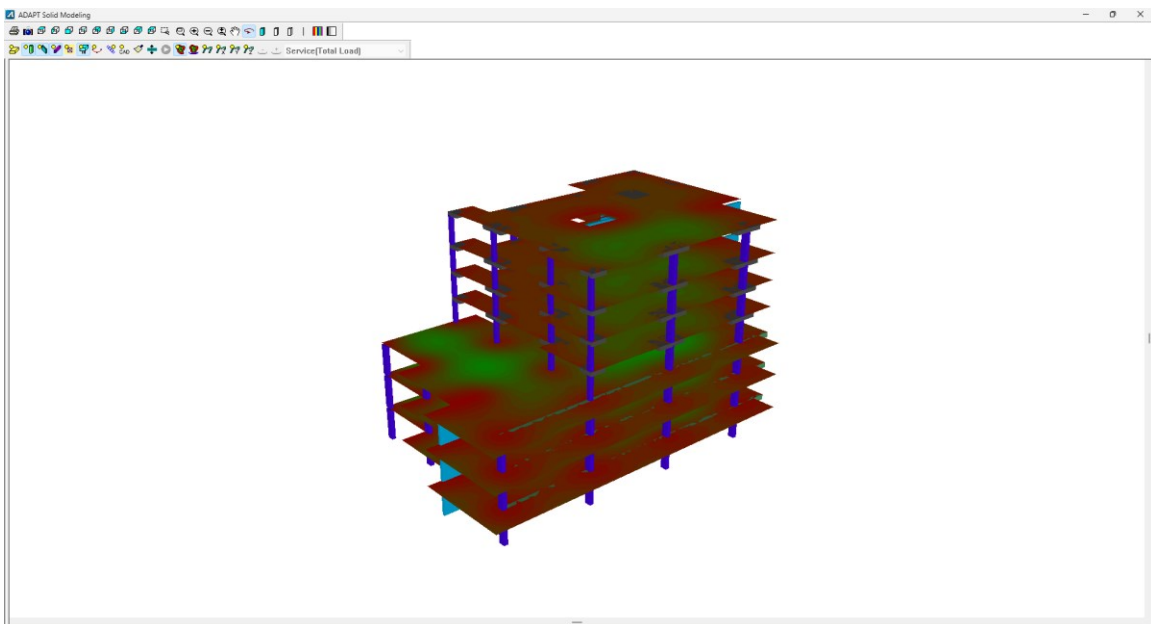

FIGURE 7-16
- If we left click on the screen and hold the left click button of the mouse, you can then rotate the model with movements from the mouse. **Rotate** the model so that the view is like that shown in **FIGURE 7-16**.